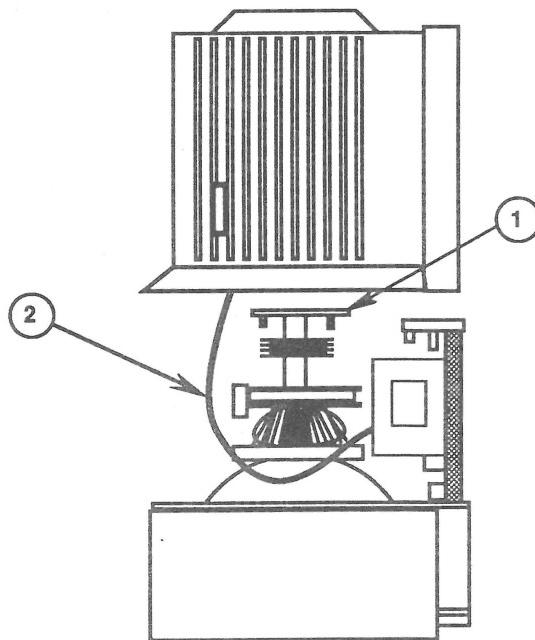

FIGURE 3
5. Carefully pull the rear cover up until it clears the CRT board (Figure 3, #1) at the end of the CRT neck.
CAUTION: *The rear cover cannot be completely removed until the power switch cable (Figure 3, #2) is disconnected from the power supply board, as directed in Step 7.*